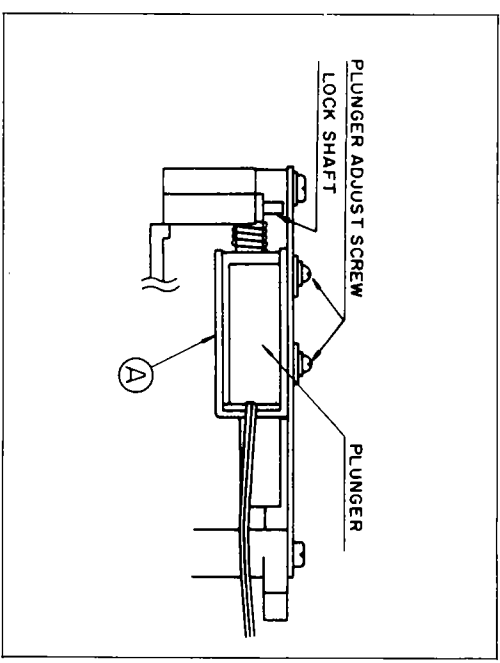

Figure 31
- (Refer to Figure 31)
1. Under fast forward mode, loosen the plunger retaining screw, hold up the part (A) of the plunger by hand and while keeping the plunger in contact with the lock shaft, retighten the plunger retaining screw.